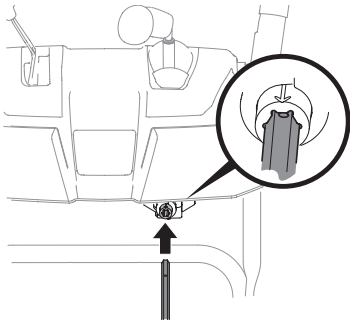

Figure 18
- Insert chute control rod into pinion gear under handle panel. Make sure to line up hole in rod with arrow on pinion gear (Figure 18).